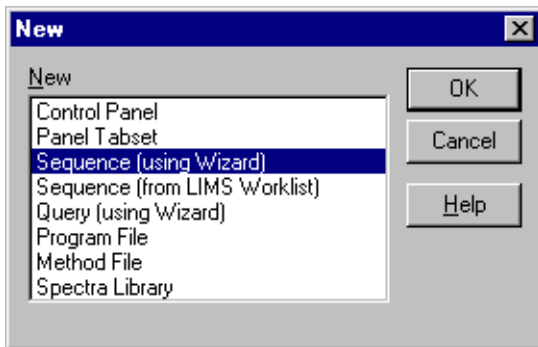

Figure B-94. Creating a New Sequence
3. In the Browser, select **File>New** and select **Sequence (using Wizard)** (see Figure B-94).